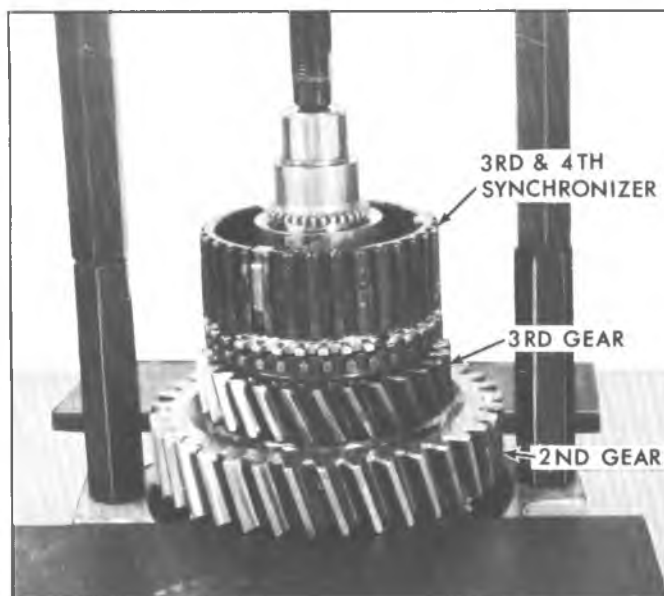

Fig. 4X—Disassembly of Mainshaft
4. Press behind second speed gear to remove 3rd-4th synchronizer assembly, 3rd speed gear and 2nd speed gear along with 3rd speed gear bushing and thrust washer (fig. 4X ).